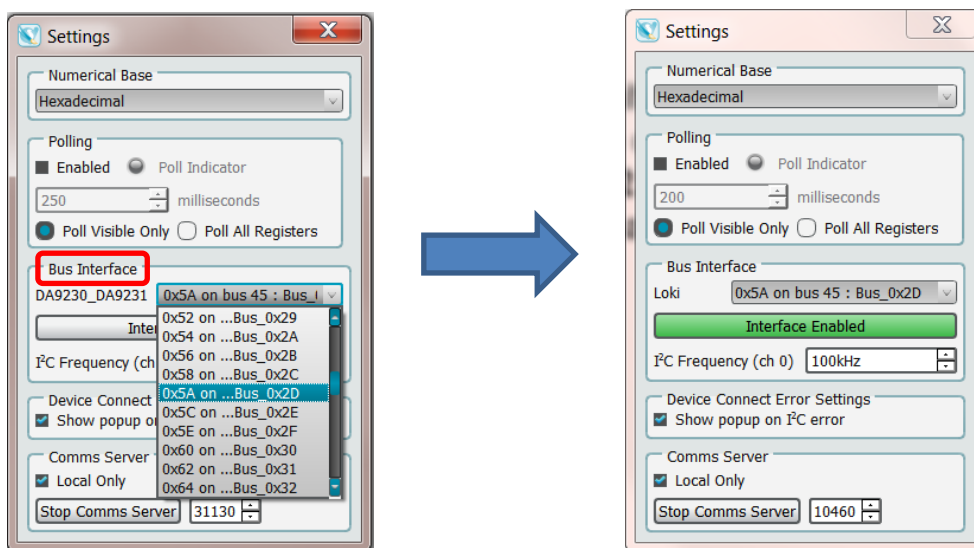

Figure 8: Example of Re-configure GUI I2C address
2. In the Settings window, go to Bus Interface. See Figure 8. The default I2C address is “0x5E on bus 47 : Bus\_0x2F”. Select the correct I2C address from the drop-down list based on device OTP versions. For example: Select “0x5A on bus 45 : Bus\_0x2D” for DA9231\_0DVZ2. Then make sure “Interface Enabled” is highlighted. The GUI I2C address is selectable from 00-7F.